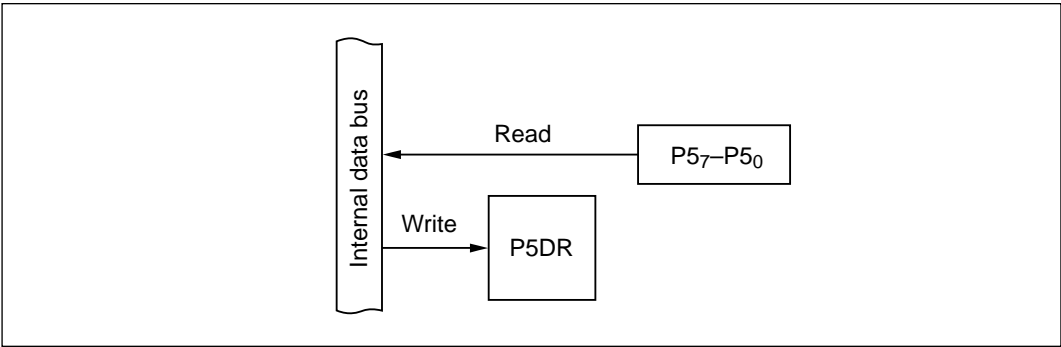

Figure 9-29 Input Port (Modes 1 to 7)
(1) Input Port (Modes 1 to 7): Figure 9-29 shows a block diagram illustrating the general-purpose input function. Table 9-21 indicates register read/write data. Values written in the port 5 data register (P5DR) have no effect on general-purpose input lines. When read, P5DR returns the value at the pin.